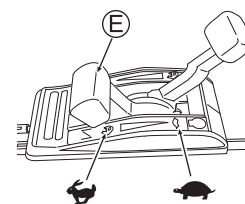

Fig. 13
- Confirm that there is no person behind you when pulling the starter knob (V).
- Securely hold the starter knob (V) when you pull it.
- Return the starter knob (V) slowly.
5. Warm up the machine before use. After the engine has warmed up, start mowing by setting the throttle lever (E) to "N". (See Fig. 13)